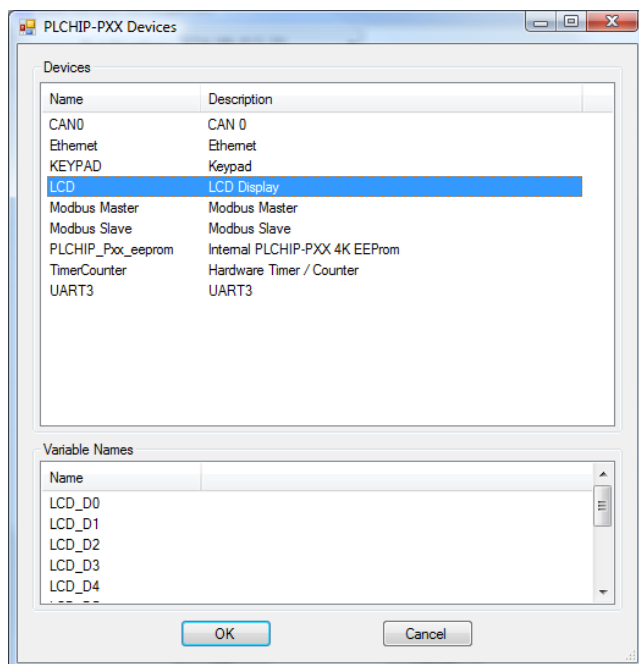
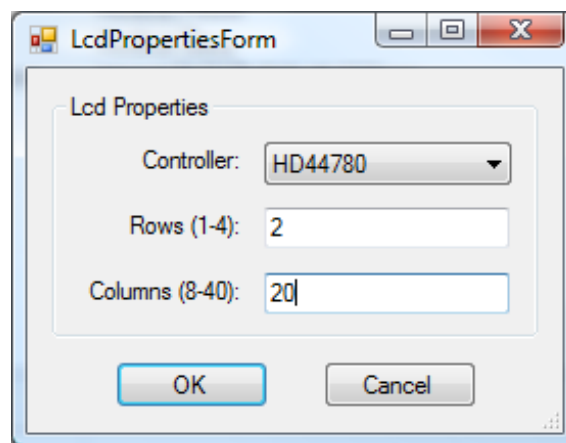

Figure 2-29 - PLCHIP-PXX Devices - LCD
Figure 2-30 - LCD Properties
4. Click the **LCD** device (highlight) and click **OK**. Refer to Figure 2-29. The *LcdPropertiesForm* dialog will open. Refer to Figure 2-30.